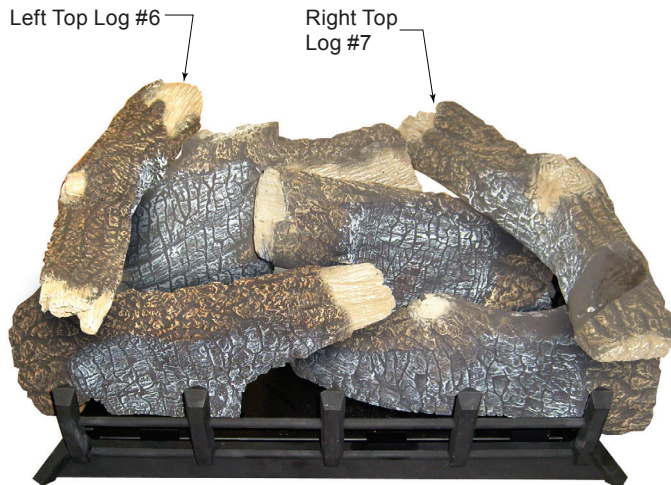

Figure 39.
locating blocks on logs #4 and #5. Figure 39.
7. Place right top log (#7) on right rear log (#3) and right front log (#2) using locators on the bottom of log #7 and locators on logs #2 and #3. Figure 39.